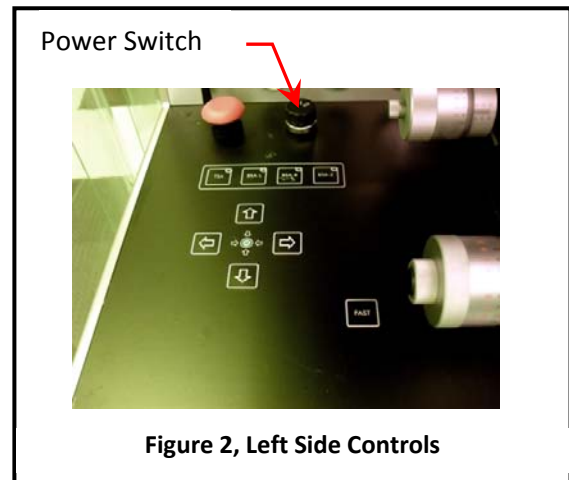

Figure 2, Left Side Controls
- Figure 2, Left Side Controls 3
6.2.1 Turn on black knob with 0/1 written on it, on left side of machine. See *Figure 2, Left Side Controls*.